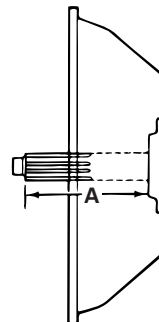

Figure 2
3. Remove the capscrews and the washers that fasten the input bearing retainer to the main case. Remove the input bearing retainer. **Figure 2**.